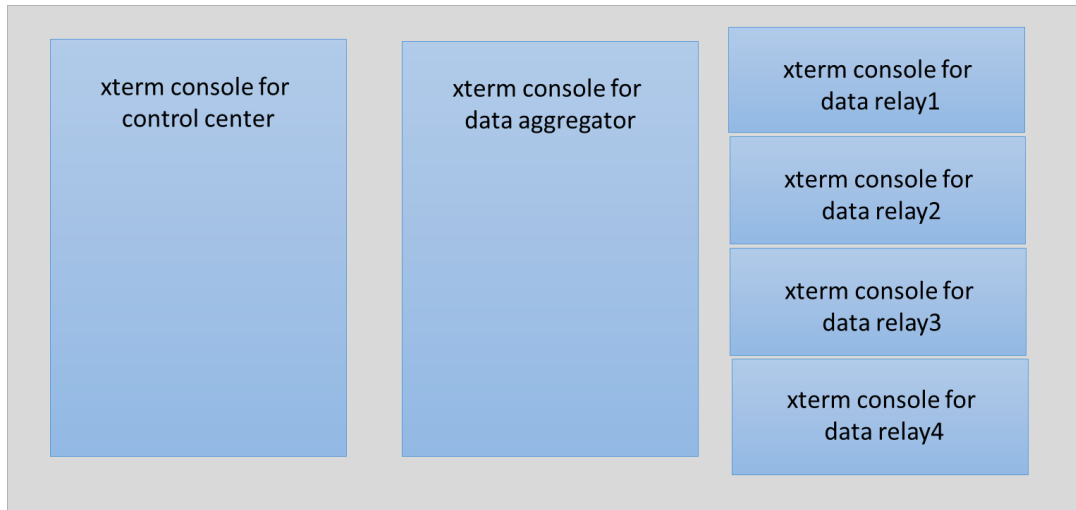

Figure 1. Suggested pattern to show all running machines in mininet.
- **A snapshot of running the Python scripts in Mininet (15%).** After running the scripts, take a snapshot to show the **consoles** of all machines. I suggested putting machines in the pattern shown in Figure 1 so that I can compare the outputs from the Control Center machine and the Data Aggregator machine clearly.